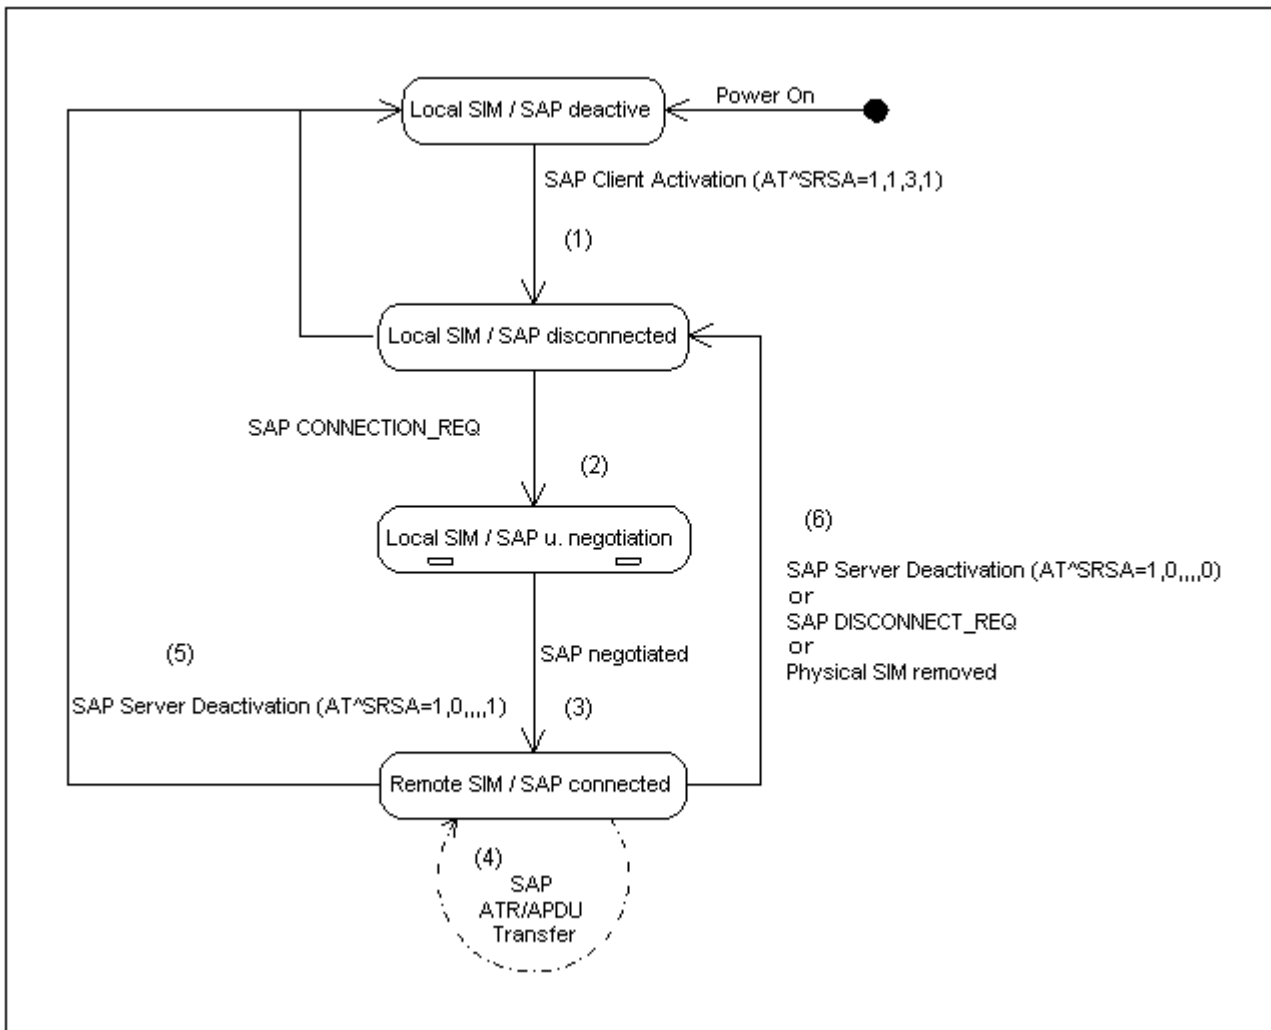

Figure 15.3: SIM usage states of SAP server
After SAP client activation (see (1) in Figure 15.3, SIM usage states of SAP server) the ME starts sending the SAP message CONNECTION\_REQ. However, the client will still use its local SIM card until a server responds and the parameter negotiation with subsequent ATR access has been accomplished successfully.